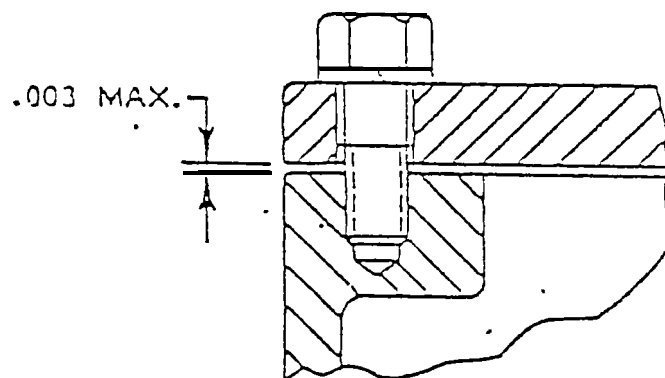

FIGURE 5
- (WEEKLY) 5. () Headlight switch cover is properly installed with all bolts and lockwashers in place and tight (Figure 5).